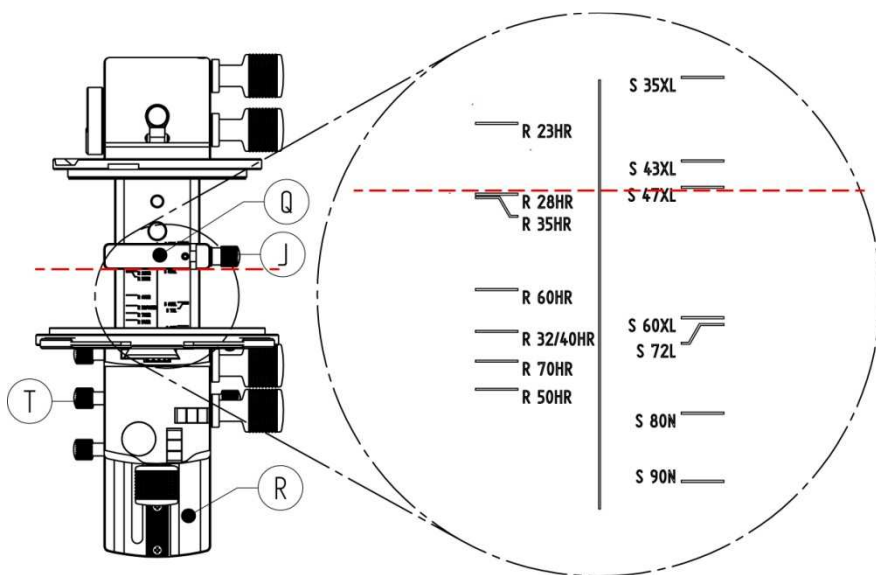

Figure 7: Infinity scale, top view
It is possible to change the standard Actus⁵ (for DSLR and mirrorless system cameras) to a Actus DB2 version. Screw S (M2x4 DIN 912, figure 7) prevents the telescopic rail (R) from sliding of the main rail (U). This screw can be removed when it is aligned correctly with the hole in the telescopic rail. Please use an Allen key 1,5mm to remove the screw. With the screw removed the rear standard of the Actus can slide of the main rail. Place the new rear standard, align the hole and screw hole of R and U, and screw in the screw S.